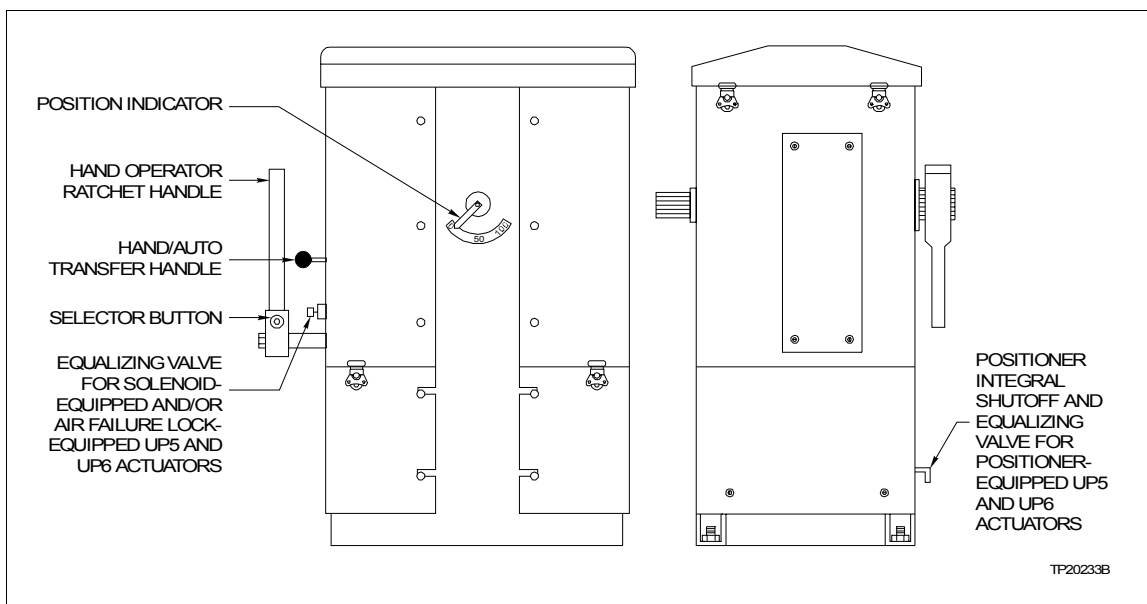

Figure 5-3. Operating Controls - Types UP5 and UP6 Actuators
**NOTE:** Refer to Figure 5-3.